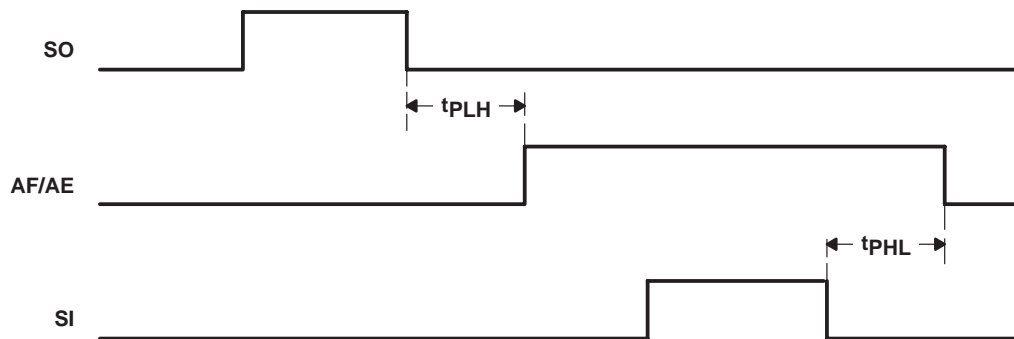
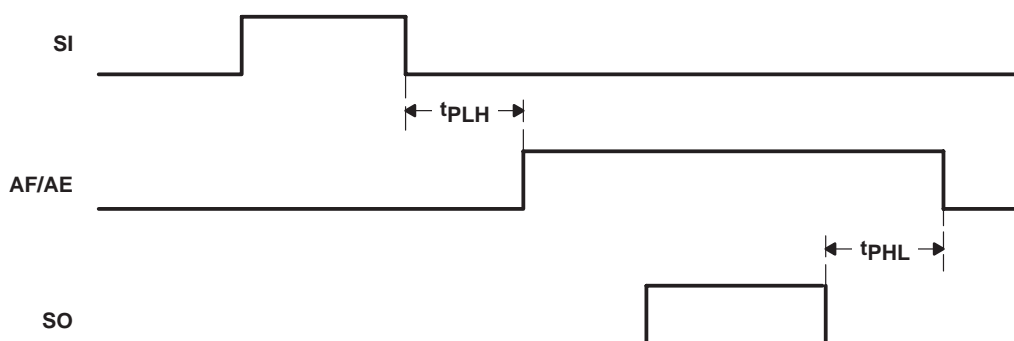
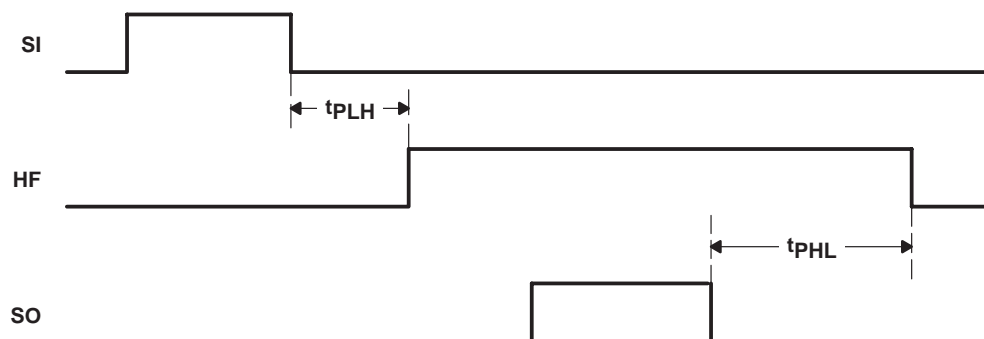

Figure 5. Almost-Empty Waveforms
Figure 6. Almost-Full Waveforms
Figure 7. Half-Full Waveforms
Status of the SN74ALS235 FIFO memory is monitored by the output-ready (OR), input-ready (IR), almost-full/almost-empty (AF/AE), and half-full (HF) flags. When OR is high, valid data is available at the outputs. OR is low when SO is high and stays low when the FIFO is empty. IR is high when the inputs are ready to receive more data. IR is low when SI is high and stays low when the FIFO is full. AF/AE is high when the FIFO contains eight or less words (see Figure 5) or 56 or more words (see Figure 6). AF/AE is low when the FIFO contains between nine and 55 words. HF is high when the FIFO contains 32 or more words and is low when the FIFO contains 31 words or less (see Figure 7).